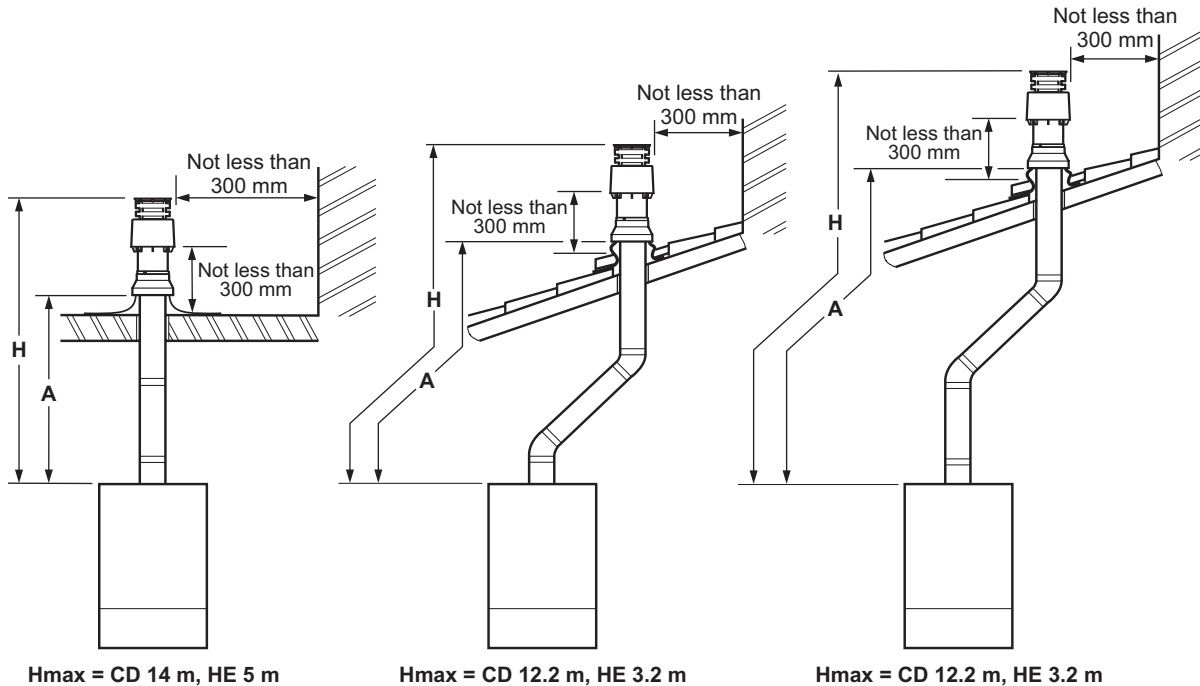

Fig. 3
- Refer to the vertical flue options (Fig. 3) and ensure the flue length **does not exceed** the equivalent of 15 m for CD boilers and 6 m for HE boilers (including the terminal assembly).
- To determine the actual length of flue required (L), measure the distance from the top of the side panel to the weathering slate position and subtract 720 mm for the terminal assembly, i.e.  $L = A - 720$  mm (see Fig. 3).
**Note:** Ensure that the minimum distances are maintained (see Fig. 3). Do not secure the terminal into position at this stage.